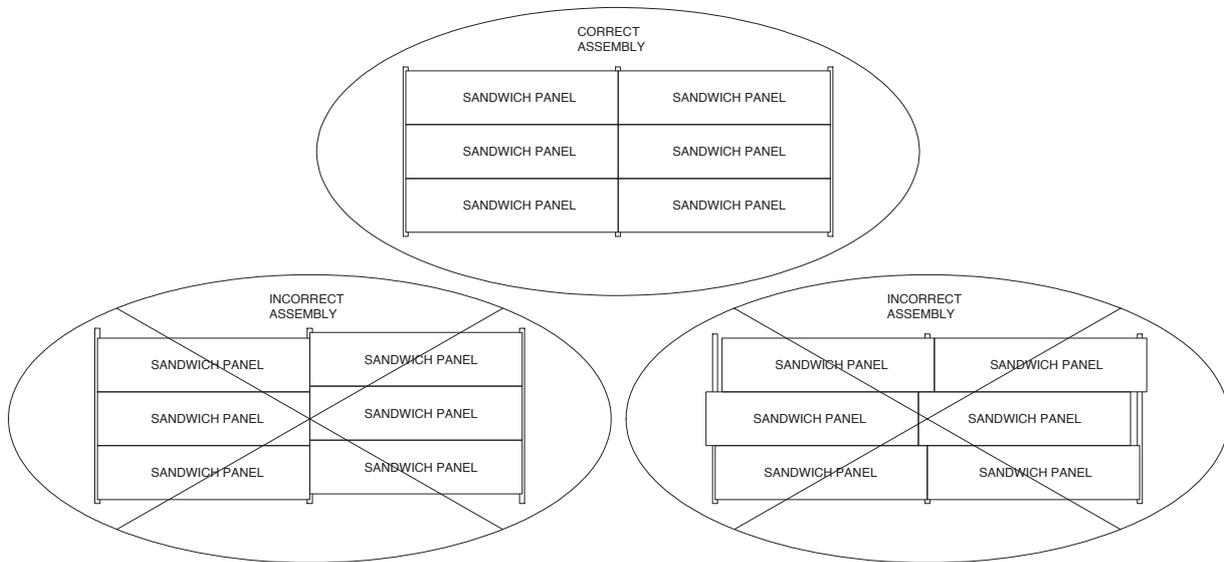

Fig. 15. Alignment of horizontal and vertical joints
- Regardless of the core type, it is important to maintain alignment of horizontal and vertical joints – see fig. 15.